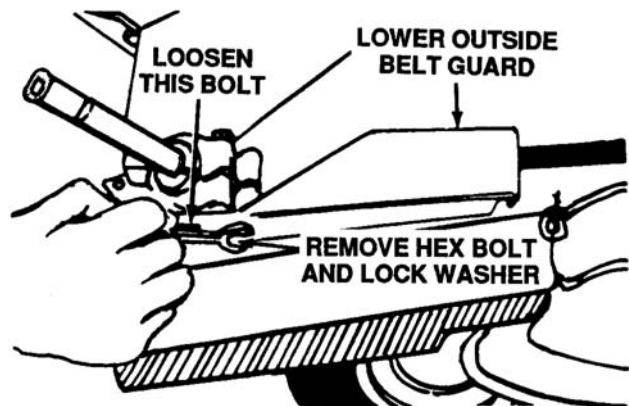

Figure 12-28. Removing Hex Bolt at Lower Outside Belt Guard
3. Remove one hex bolt and lock washer at the front of lower outside belt guard. A 1/2 inch wrench is required. See Figure 12-28.